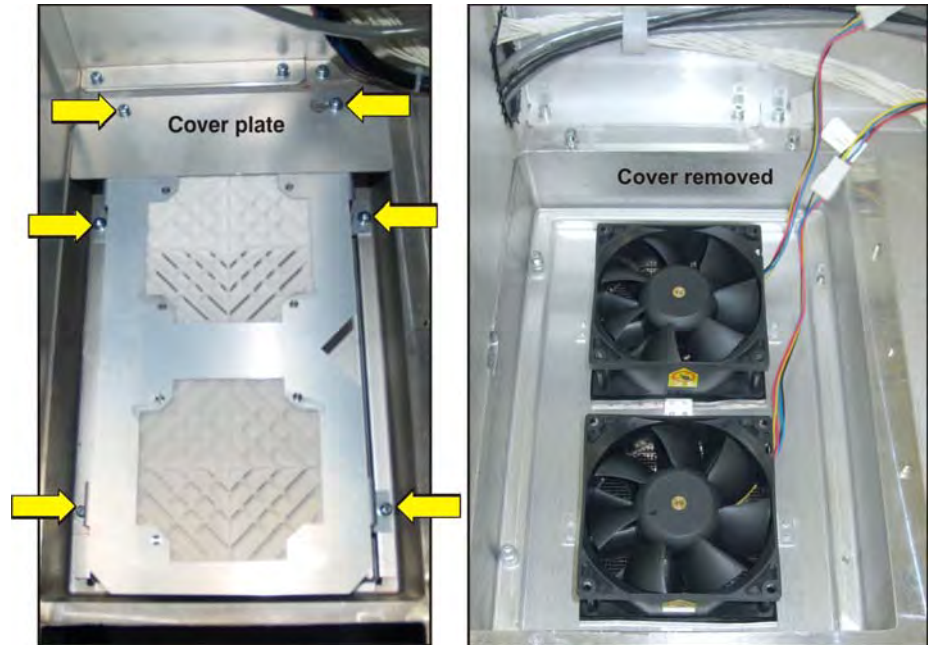

Figure 5-20 Cardcage Exhaust Fans
5. Using a 3mm hex key, remove the two screws securing the fan compartment cover plate to the base. **(Figure 5-20)**
6. Using a 3mm hex key, remove the four screws securing the bottom cover/fan assemblies to the base. **(Figure 5-20)**